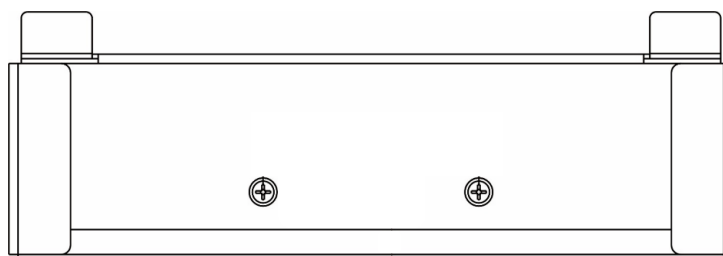

Figure 4.6 Positioning Plate as Fixed by the Screws
- 3) With two ST4x40 screws (wall-mounting **Accessory B**) and the two screw holes on the top, fix the positioning plate (wall-mounting **Accessory A**) on the wall (**Figure 4.6**).